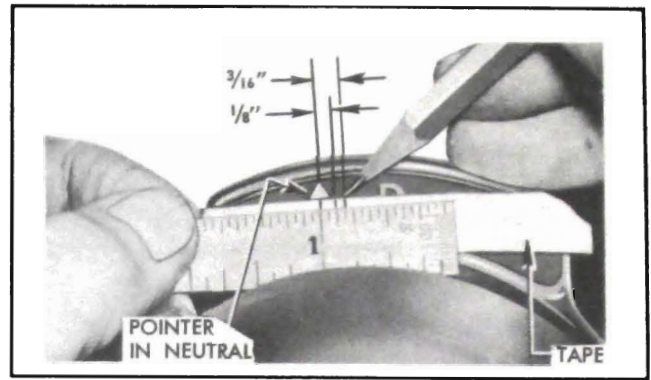

Figure 10-43—Marking Tape for Checking Switch Timing
2. Make two marks on masking tape at  $\frac{1}{8}$ " and  $\frac{3}{16}$ " from *center* of pointer. See figure 10-43. These marks give the same cut-in limits as provided by Gauge J 3085.